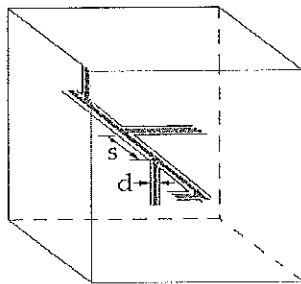

Figure B6A
- A. The water movement through a rock fracture (refer Figure B6A) is expressed as  $k = \frac{\gamma_w}{6\mu} \left[ \frac{d^3}{s} \right]$ .